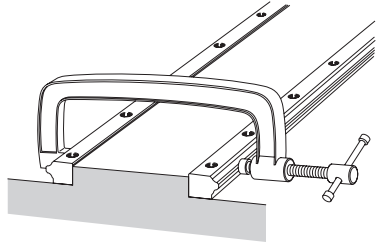

Fig.18
- (2) Use a small vice to press the two LM rails to the base so that they closely contact the reference surface, then tighten the mounting bolts to the recommended torque (see A-350). (Fig.18)
- (3) Mount the LM blocks on the table, then install them onto the LM rails. Be sure the mounting bolts for the LM blocks are temporarily fastened.
- (4) Tighten the clearance adjustment bolt alternately to adjust the clearance.